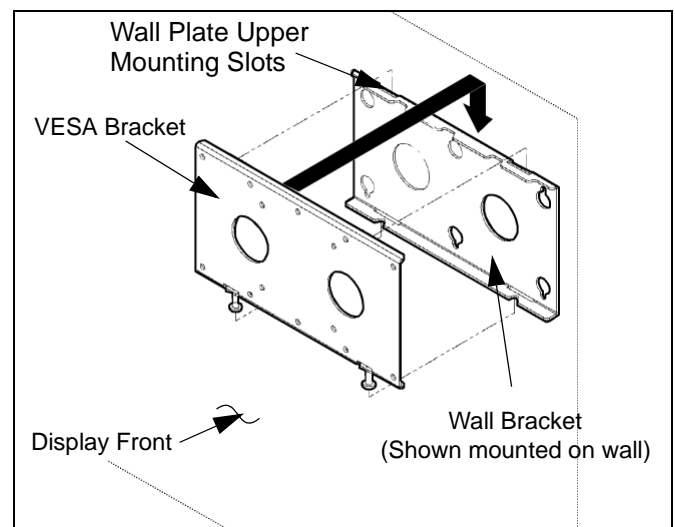
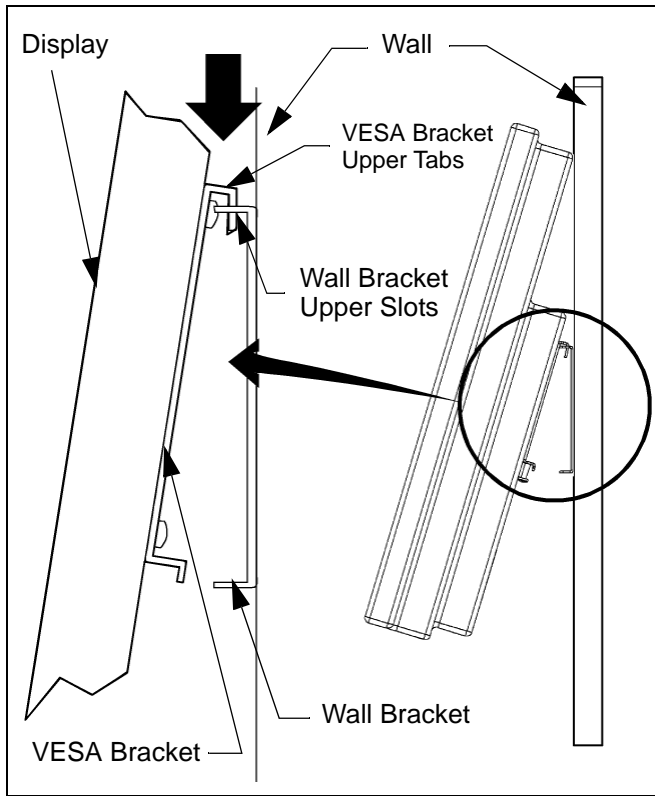

Figure 13: Hang Display
Figure 14: Hang Display
1. Position display, with VESA bracket (10) attached, slightly higher than wall plate (20). (see figure 13)
2. Move display towards wall. (see figure 13)
- Lower display until upper tabs on VESA bracket (10) slide into upper slots in wall plate (20) top. (see figure 13) and (see figure 14)